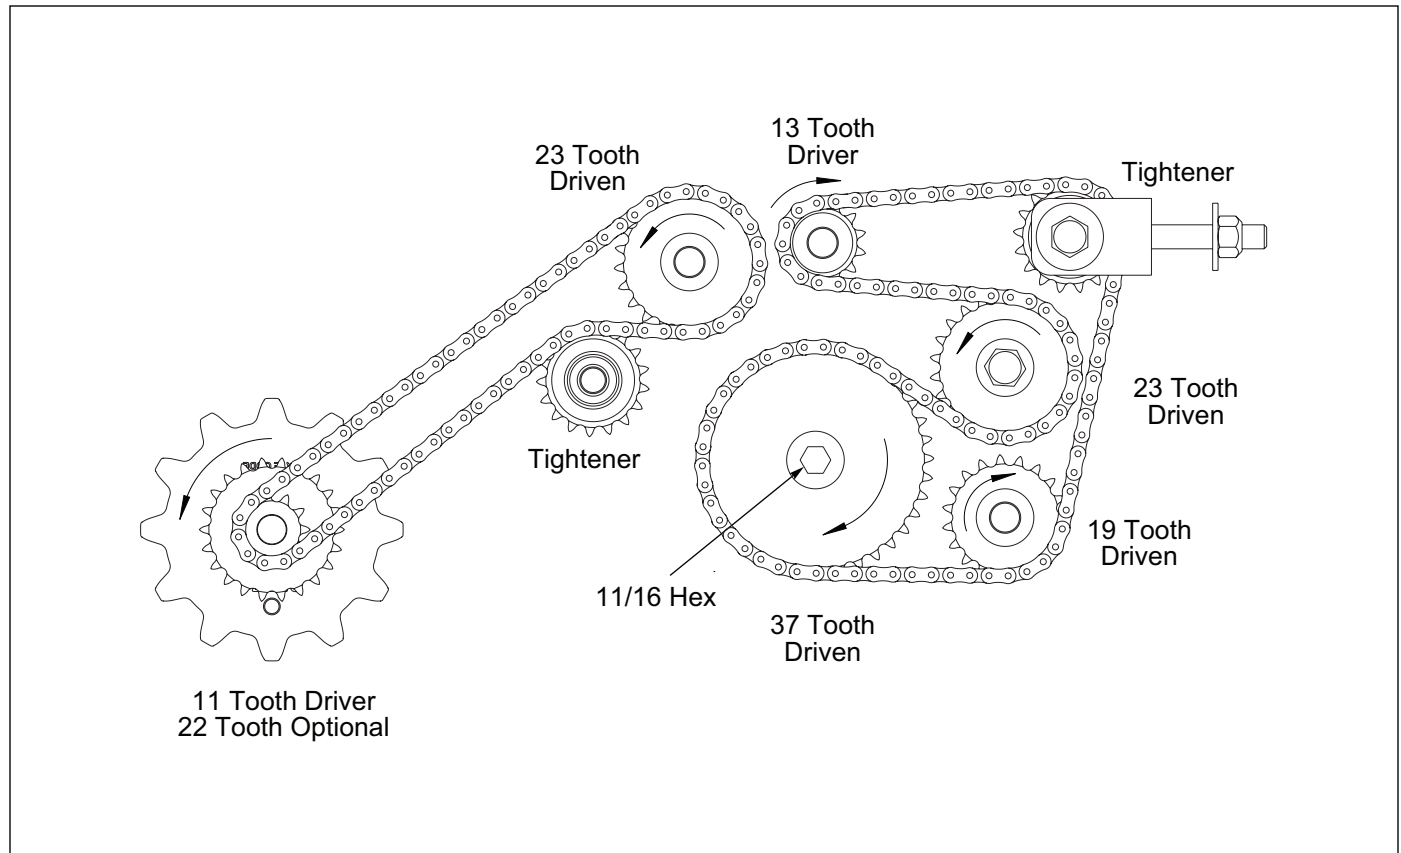

Figure 3-14: Transmission Drive
Rates are for the 11 Tooth Driver. Double these values for the 22 Tooth Driver. See Figure 3-14.
5. Turn 11/16 Hex on Transmission Shaft Clockwise(CW). **See Figure 3-14.**